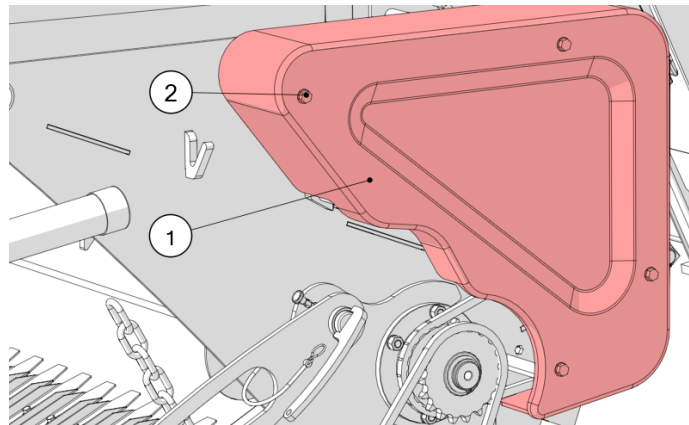

Figure 13. Remove the rotor guard
- As shown in Figure 13, remove the left rotor cover (1) by loosening the bolts (2)